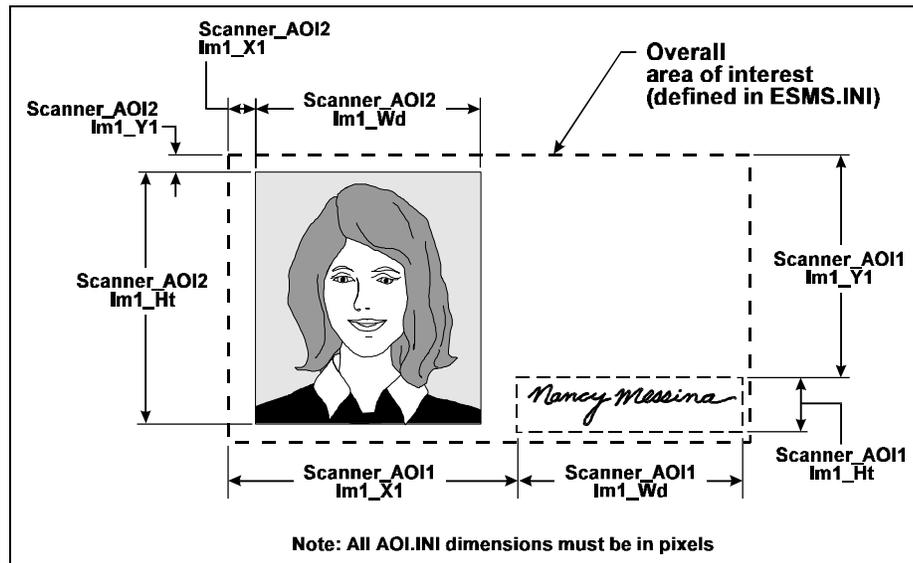

Figure 2-52. Individual Area of Interest Variables in AOI.INI
- x, y, h, w Location and size of the individual area of interest, as shown in Figure 2-52. These dimensions are relative to the overall area of interest specified in ESMS.INI, and are measured in pixels.